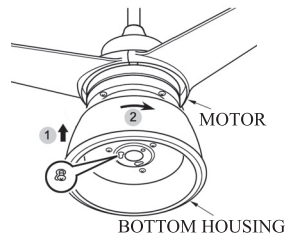

FIG.13
2. Align the bottom housing onto the motor, twist the bottom housing until it locks in place at the narrow section of the key hole. (see Fig.13)